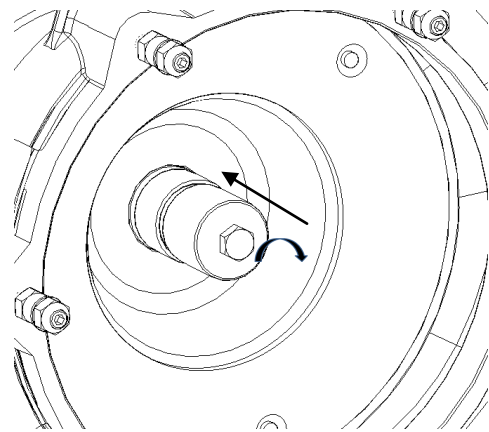

Figure 23: Setting of working length with mounting sleeve
- Now put the screw sleeve onto the shaft end and fasten the sleeve with a hex screw M10x25 up to the shoulder. (Thus the working length of the mechanical seal is set. This is essential for a proper functioning of the mechanical seal (figure 23)).